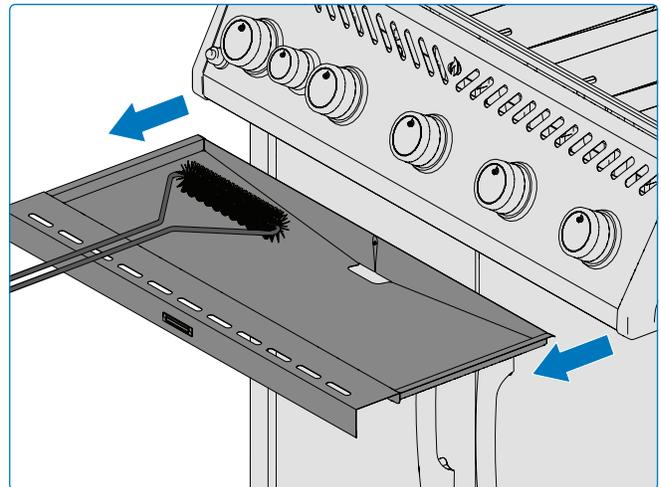

Fig. 24
- Clean the drip pan every 4–5 uses to prevent grease buildup (Fig 24).